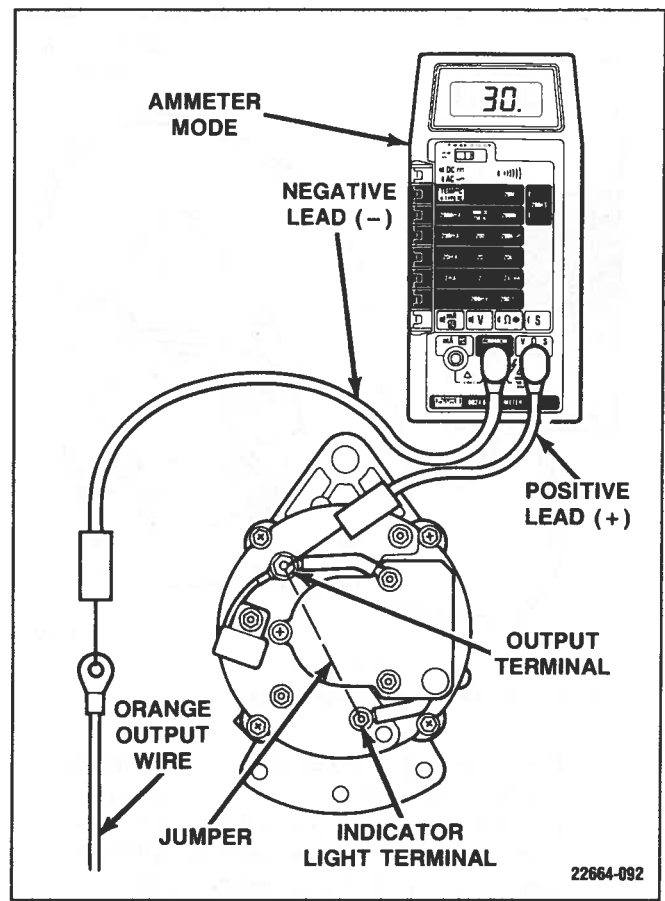

Figure 6-118. Alternator-Output Test 2
6. If reading is low, stop engine and connect a jumper lead between alternator-output terminal and indicator light terminal. Repeat Steps 4 and 5. (Figure 6-118)